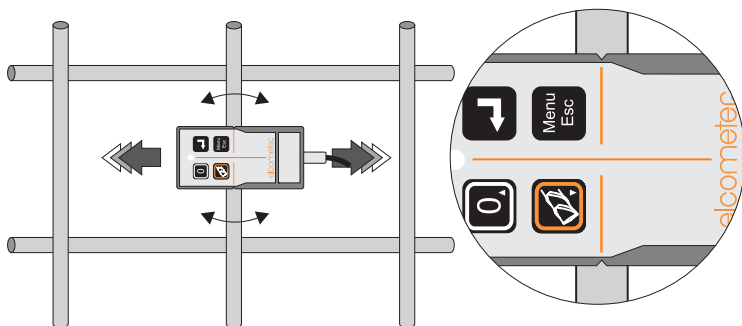

Figure 17. Search head aligned at 90°
11. Rotate the search head until it is at 90° (orthogonal) to the bar. Use the notches in the sides of the search head and the line across the top of the search head to aid alignment (Figure 17). The sound/signal will be at a minimum when the search head is aligned at 90° to the bar and the notches/line are in line with the bar.
When taking the orthogonal reading (Figure 17), the search head should be getting the minimum possible signal from the bar; any misalignment of the search head in either angle or position can only increase this signal.